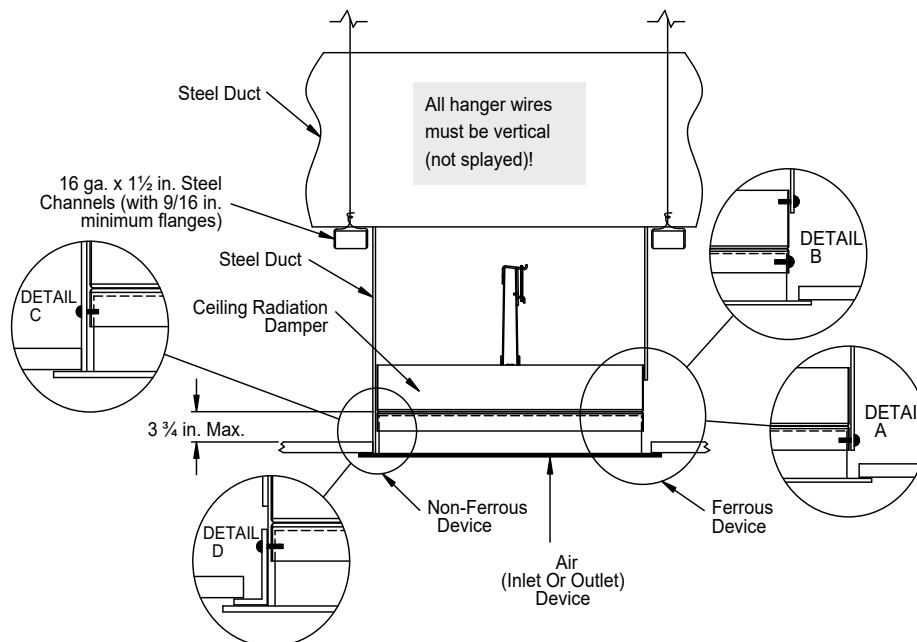

Figure 5
1. Ceiling radiation damper and air device neck may be connected directly to the duct drop (see **Detail A, Figure 5**).
2. Ceiling radiation damper may be connected directly to the air device neck and then the duct drop connected to the damper (see **Detail B, Figure 5**).
1. The steel duct drop should extend to the bottom surface of the ceiling membrane and the opening in the ceiling membrane (see General Information, Ceiling Penetrations) should be equal to the outside of the duct drop (see **Detail C, Figure 5**).
2. A steel angle should be attached to the bottom of the ceiling radiation damper and span the gap from the ceiling radiation damper to the bottom of the ceiling membrane. the steel angle should overlap the ceiling membrane. The steel angle should overlap the ceiling membrane (see **Detail D, Figure 5**).
Models CRD-1, CRD-1LP, CRD-2, and CRD-60 may be installed as shown in **Figure 5** (Model CRD-1 & CRD-1LP illustrated).